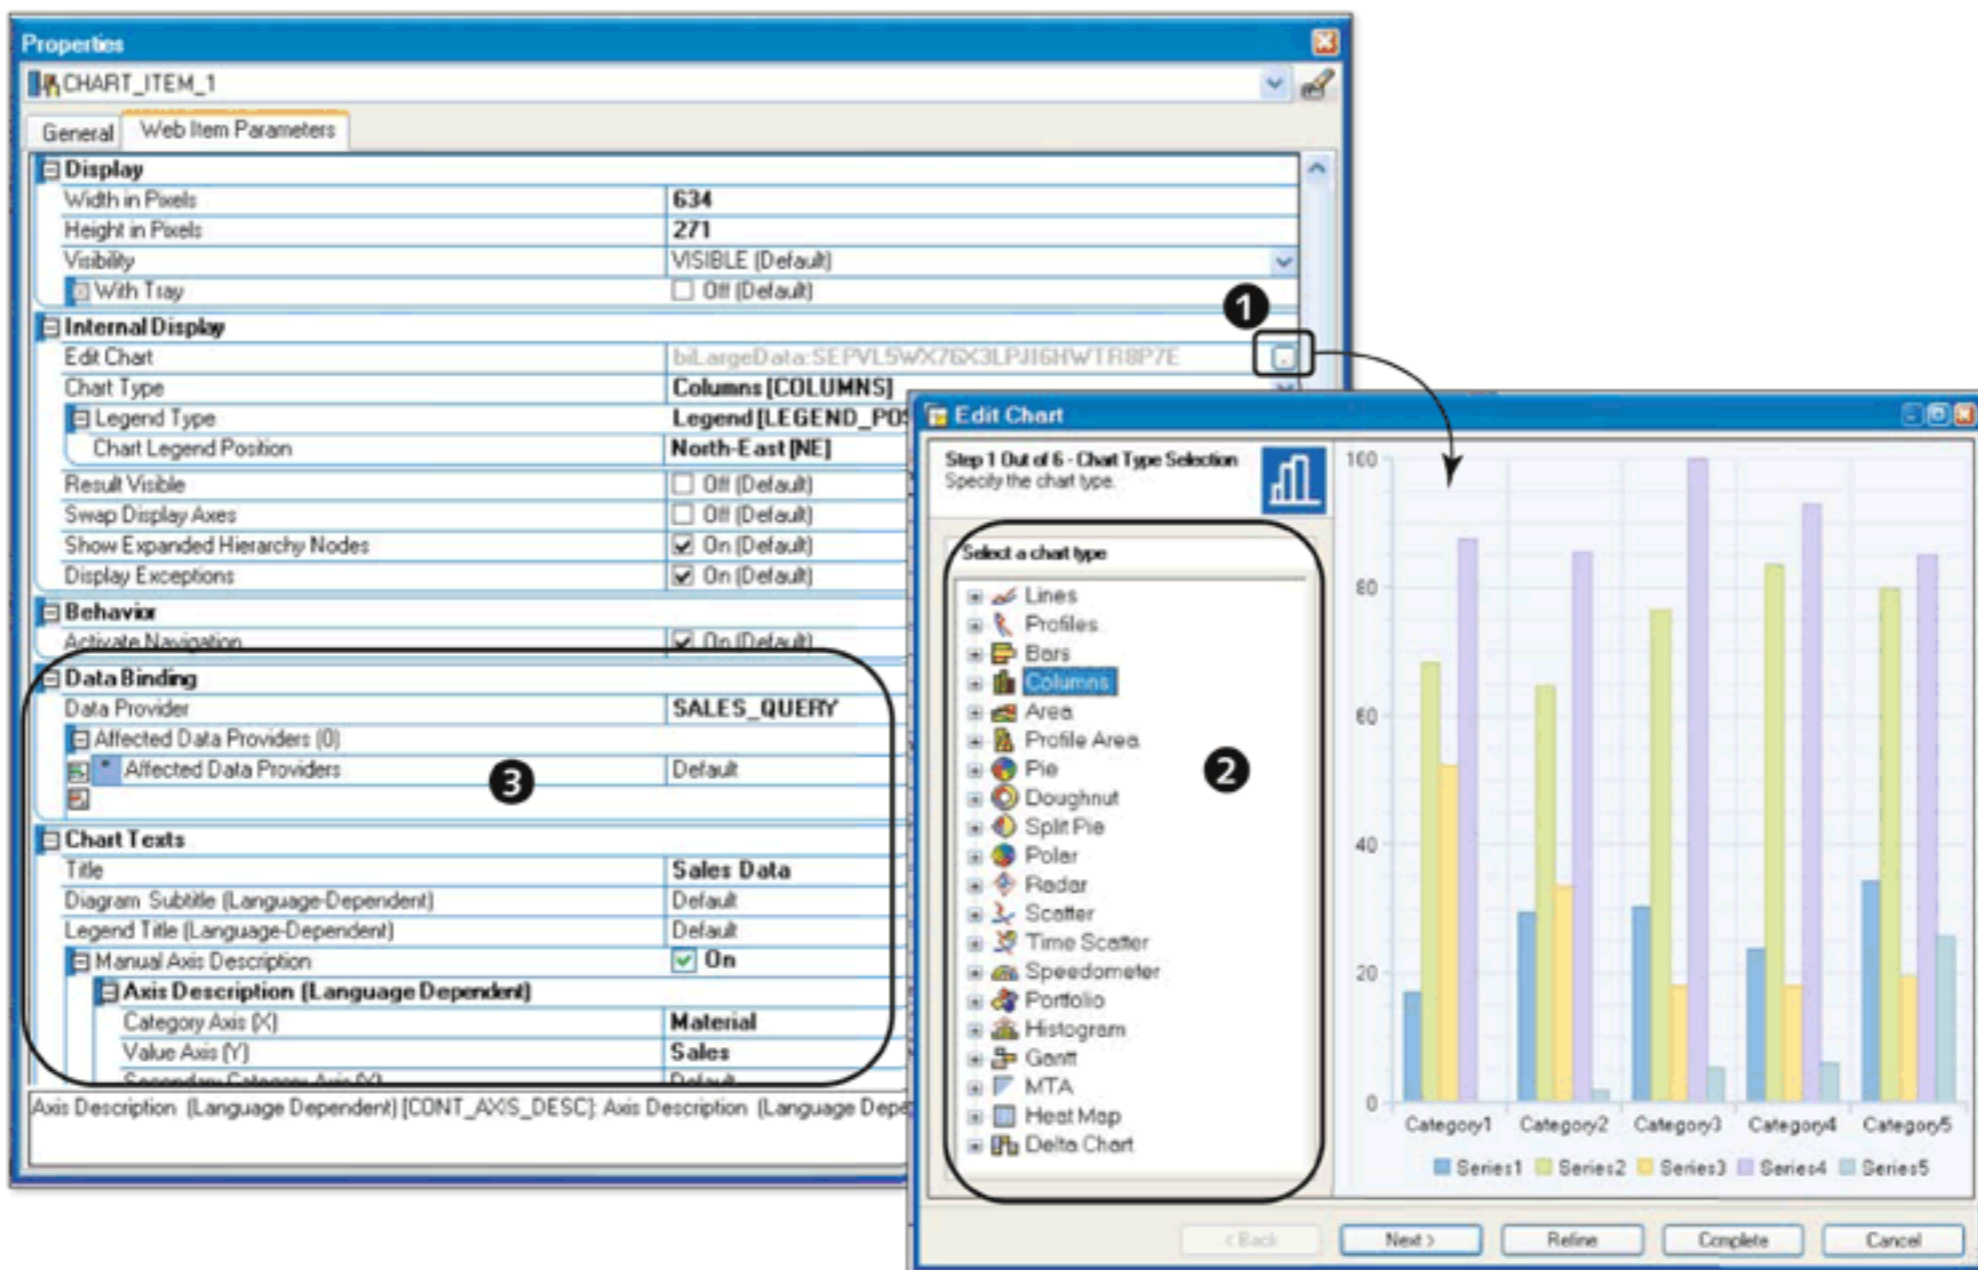

Figure 11.10 Maintain Chart Properties
Different parameters that control the display, behavior, and other chart settings are maintained as a part of chart properties (see Figure 11.10).
The EDIT CHART option (see ❶ of Figure 11.10) opens up an EDIT CHART window, which is much like a chart wizard (similar to that of Excel). On this screen, you can select the type of chart from the numerous available chart types (❷) and configure the chart at a detailed level.
Maintain the DATA BINDING and chart-specific settings, as shown in ❸ of Figure 11.10.
We discussed this web item while creating the web application in Section 11.2. The CHART web item is used to display the data in a graphical format and is based on a data provider. The different parameters shown earlier in Figure 11.10 control the display, behavior, and so on for the chart. A wide variety of chart options is available in BEx Web Application Designer. These charts/graphs can be customized using the chart wizard, which can be called from the chart properties (refer back to Figure 11.10).